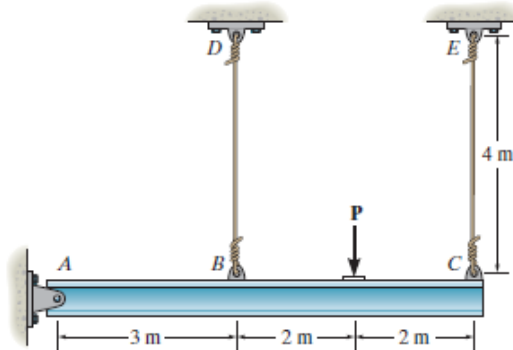

Fig. 2
- The rigid beam shown in Fig. 2 is supported by a pin at A and wires BD and CE. If the load **P** on the beam causes the end C to be displaced 10 mm downward, determine the normal strain developed in wires CE and BD. [ $\epsilon_{CE} = 0.00250\text{mm/mm}$ ;  $\epsilon_{BD} = 0.00107\text{mm/mm}$ ]